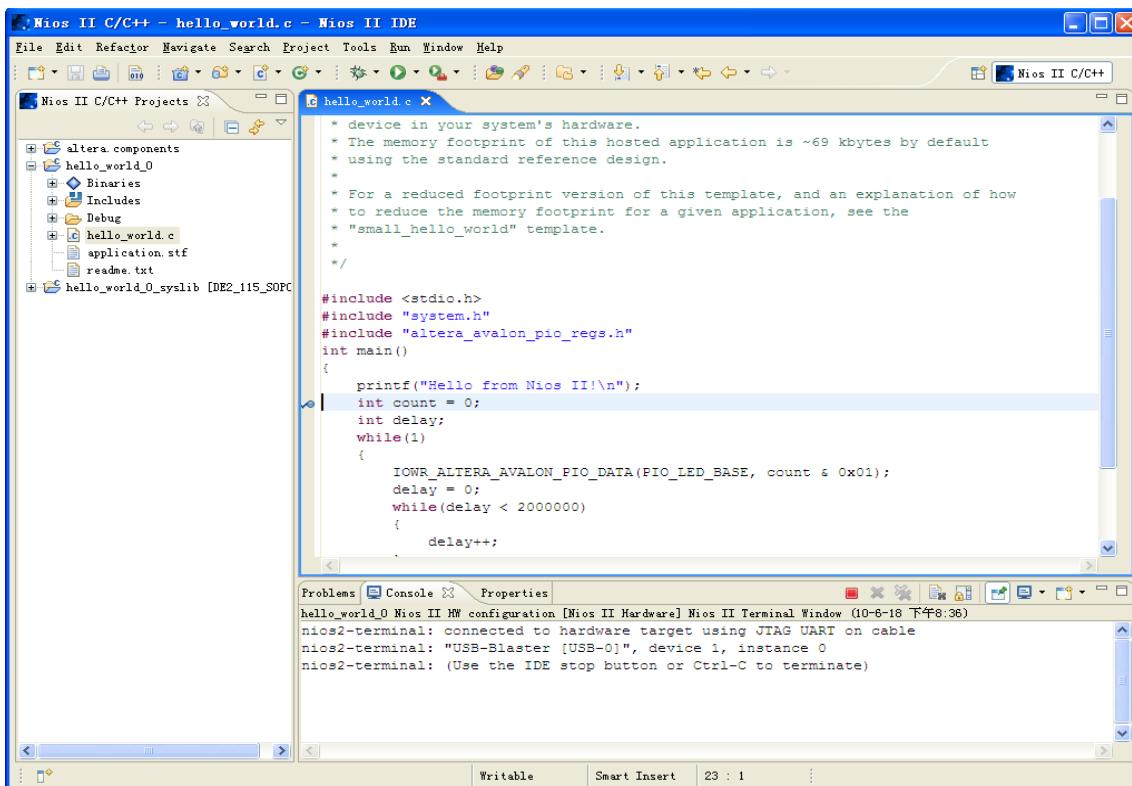

Figure 7-58 Set Breakpoint
1. In the **hello_world.c**, double-click the front of the line where you would like to set breakpoint, as shown in **Figure 7-58**.